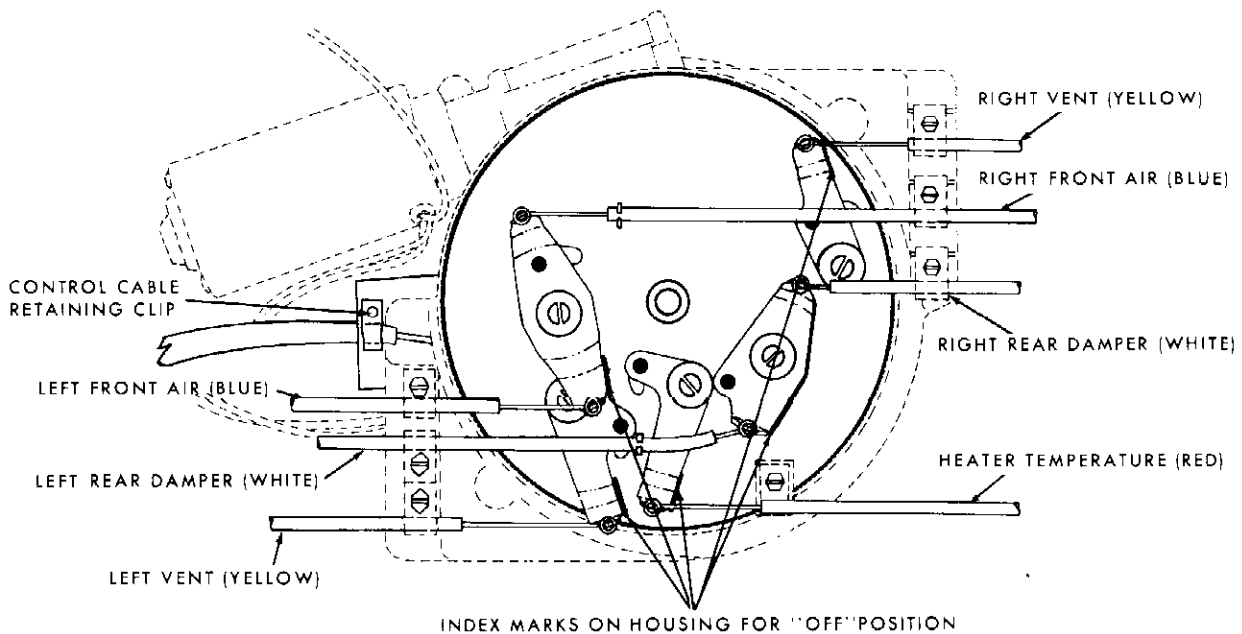

Fig. 3-17—Control Cables and Servo Lower Arms—(61LT-8827)
5. Loosen the control cable retaining clip (See figure 3-17).
NOTE: When the servo arms are removed for any reason, they should be suitably marked so that they may be reinstalled in their original positions. (Refer to servo arm identification sketch figure 3-17.)